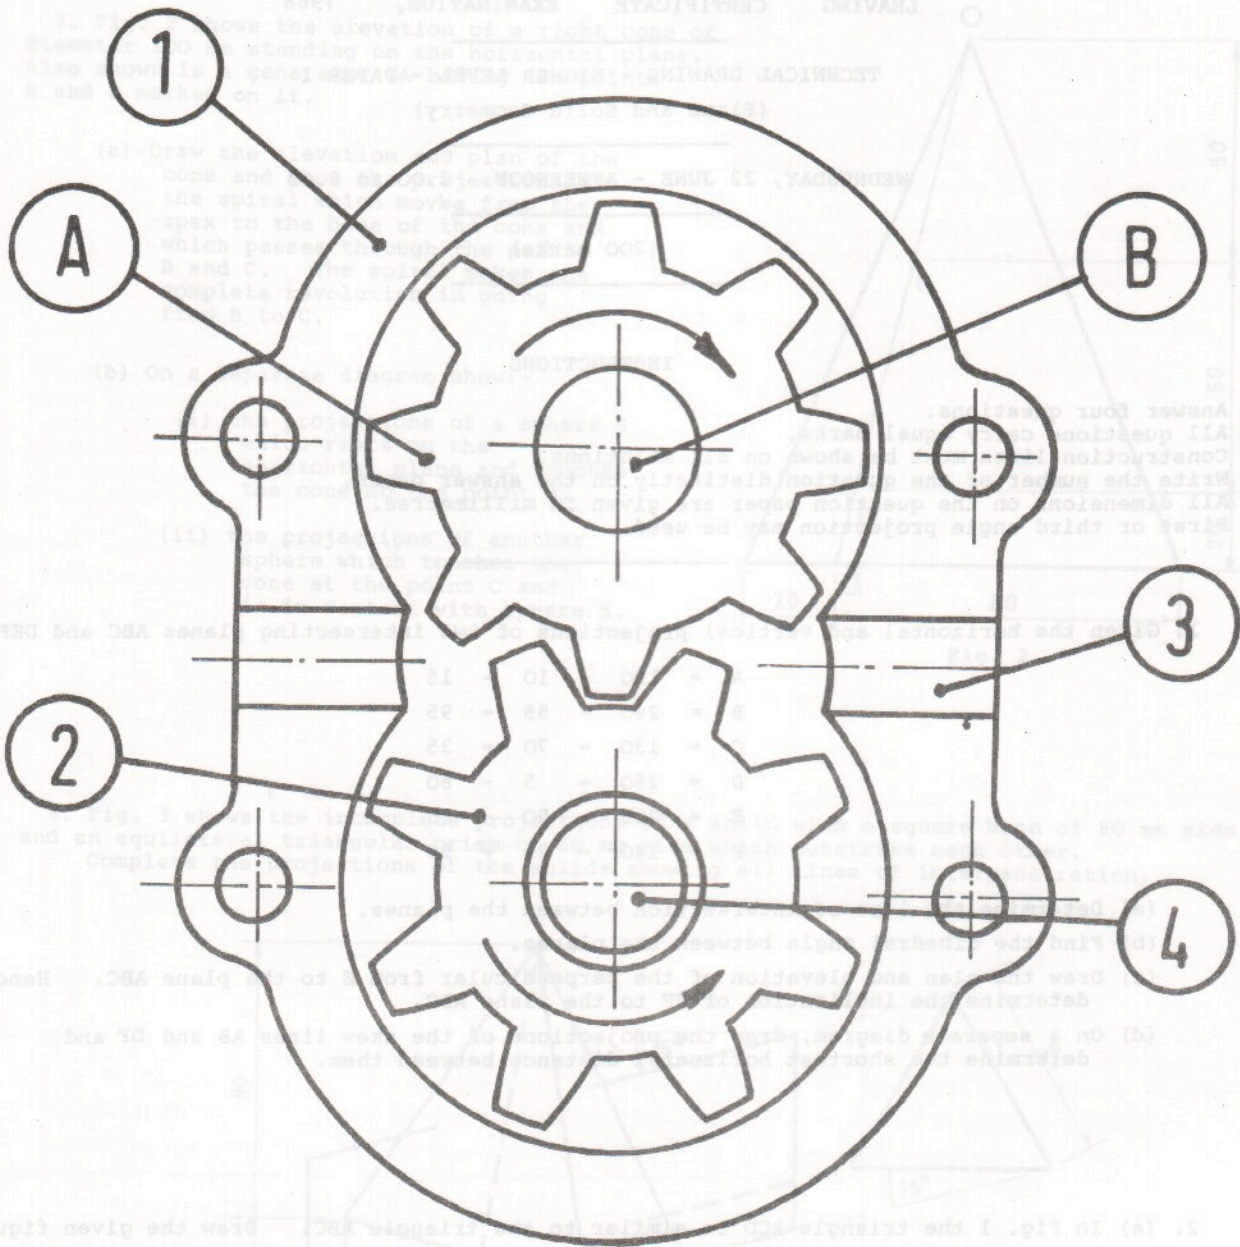

FIG. 5
- (b) (i) Identify the engineering mechanism shown in Fig. 5.